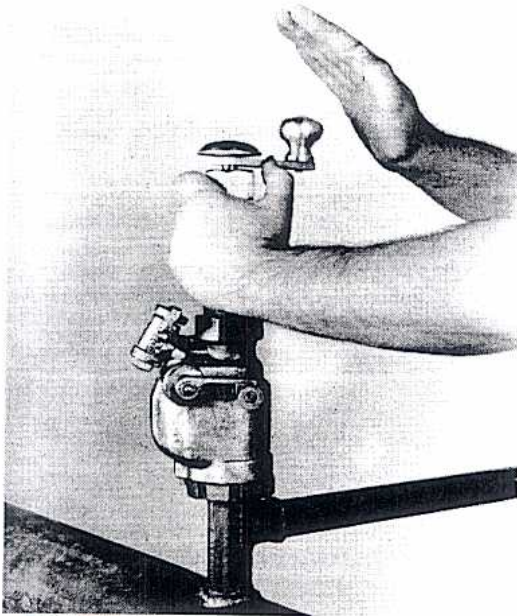

FIGURE 17
9. Reverse ratchet on "T" or "T-W" Machines and turn the handle **counter-clockwise** to take up the slack. Hold in this position with one hand and strike the end of the handle a sharp blow **counter-clockwise** with the other hand. FIGURE 17.